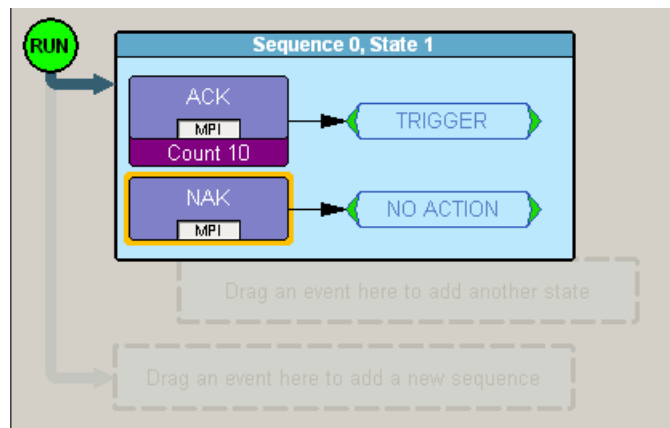

Figure 7.25 Example 3: Creating a Second Event
- Step 3** A NAK Event button appears in the Available Events area. Drag the button to the first cell and drop it below the ACK button (Figure 7.25).